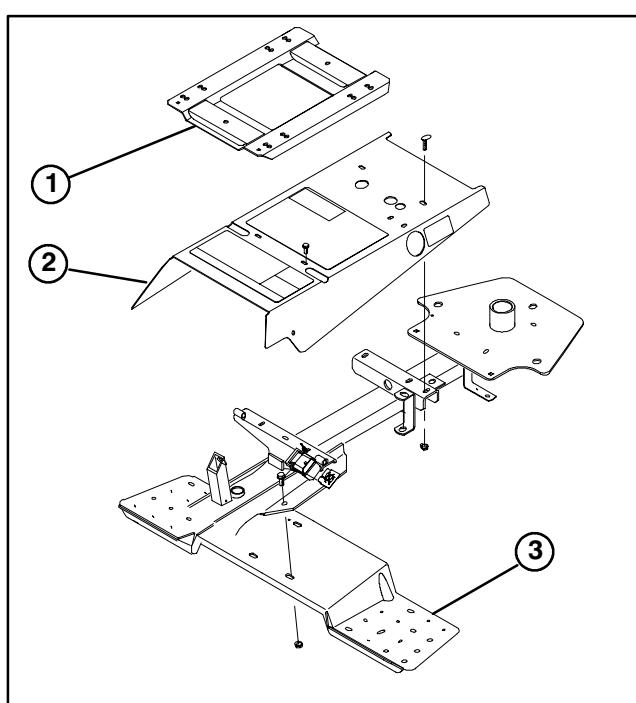

Figure 7
2. Remove fasteners securing skirt assembly to frame and lift off skirt assembly (Fig. 7).
4. Remove fasteners securing foot step to frame brackets (Fig. 7 & 8). Remove foot step.